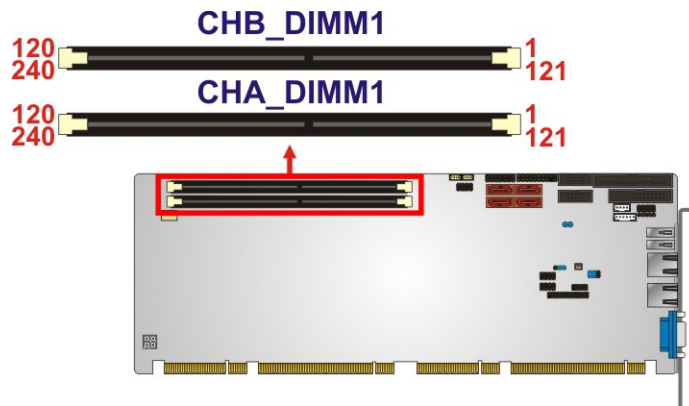

Figure 3-5: DDR3 DIMM Slot Locations
- CN Location:** See **Figure 3-5**